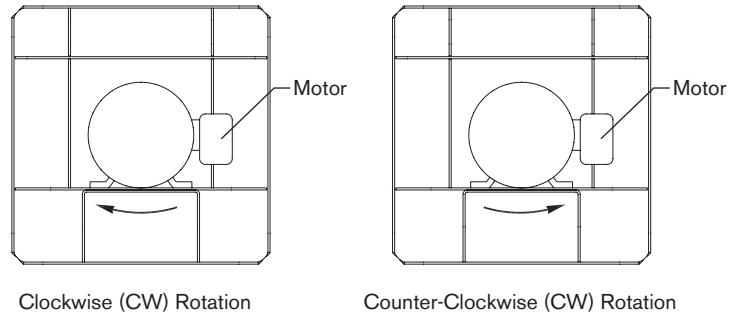

Figure 2
- 13 Apply power to the blower motor momentarily (bump start) to check for proper blower wheel rotation. If the blower is rotating in the wrong direction, reconnect the motor leads per the motor manufacturer's wiring schematic. **Blower rotation is determined by viewing the blower from the motor side of the blower, NOT from the inlet side.** After reconnecting the leads, repeat this step. See **Figure 2**.